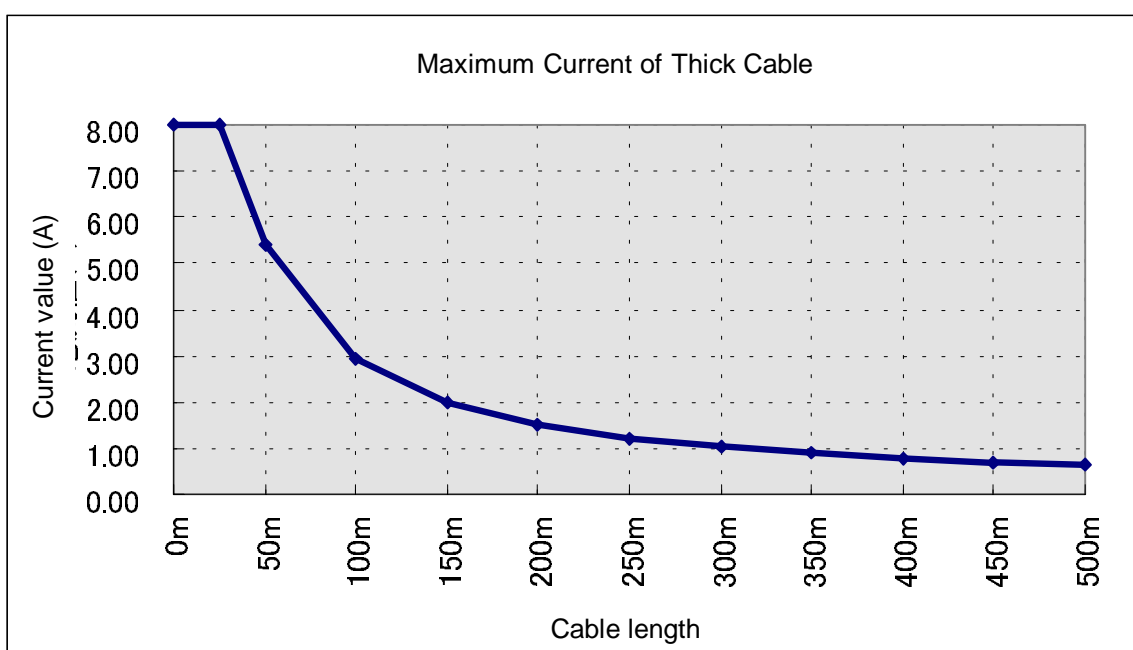
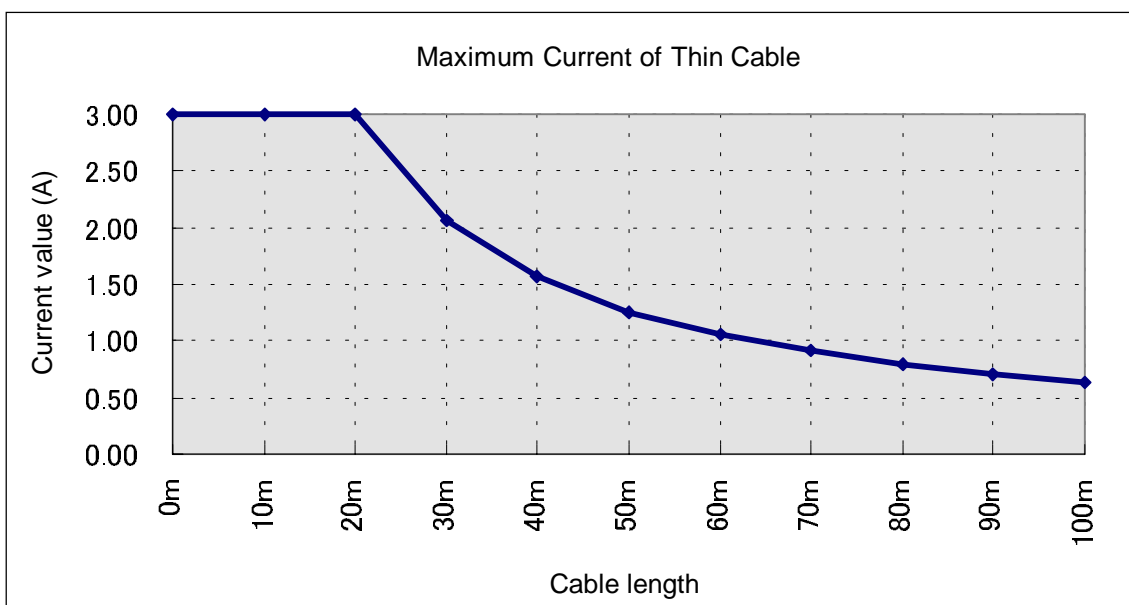

Figure 3.10 Current of the Trunk Line (thick cable)
Figure 3.11 **Current of the Trunk Line (thin cable)**
- Based on the cable type (thick cable, thin cable) used for the trunk line and the full length of the network obtained through procedure b), get the maximum current value available on the cable by using Figure 3.10 and Figure 3.11
- Maximum current = 1.53 A available on the cable, based on Figure 3.10
(4) Single Power Unit Central Connection
- Maximum current available on the cable based on Figure 3.10 = approx. 2.56 A
- c) Maximum current available on the cable based on Figure 3.10 = approx. 2.56A (Obtain the approximate value between 100 to 150 meter straight cable.)
- c) Maximum current available on the cable in section 1, based on Figure 3.10 = approx. 2.19A